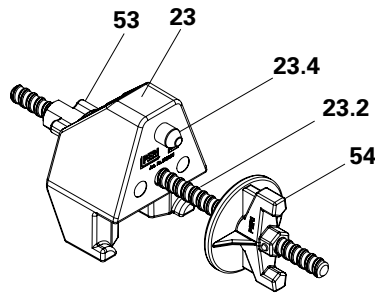

Fig. A3.08a
- DUO corner connector (Fig. A3.08a).